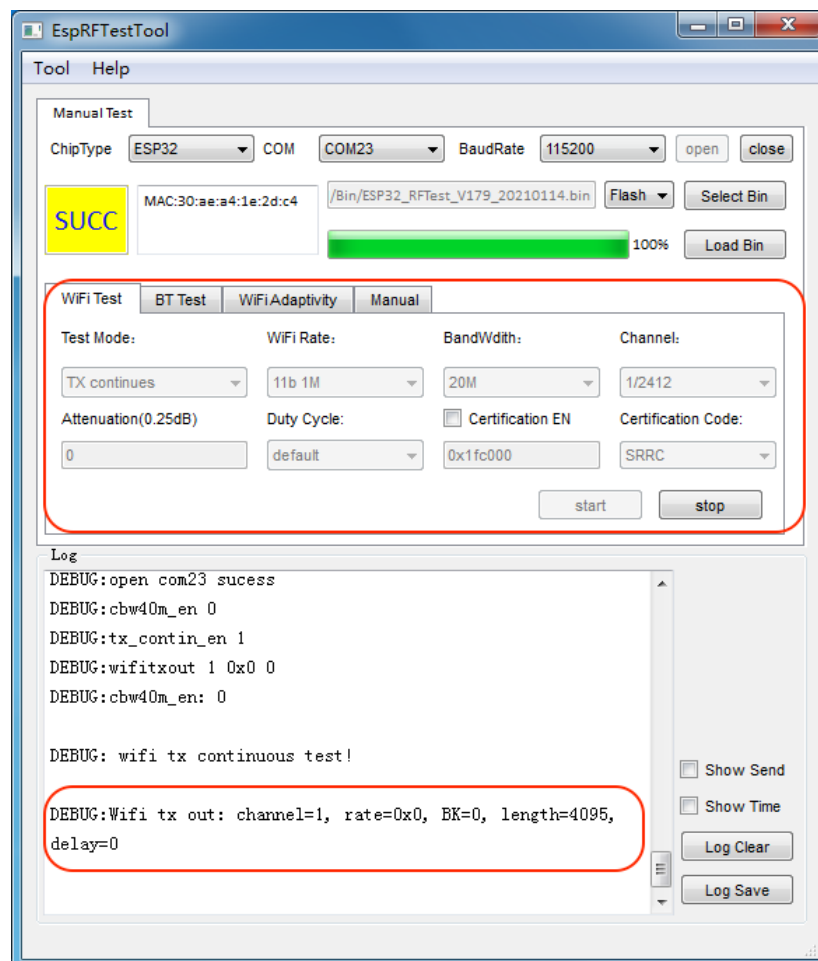

Figure 2-3. ESP32 Wi-Fi Fixed Frequency Test
- Select other options according to the laboratory test needs. Then click on **start** to start the fixed frequency test. The log is displayed in the tool. Figure 2-3 shows the test interface of ESP32.